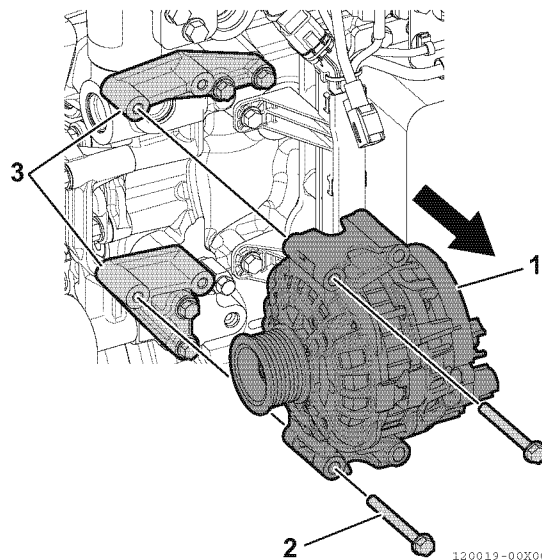

Fig.70-8
4. Loosen the four bolts (2, Fig.70-8) that fasten the alternator (1, Fig.70-8), then remove the alternator. At this time, do not remove the top and bottom alternator brackets (3, Fig.70-8).